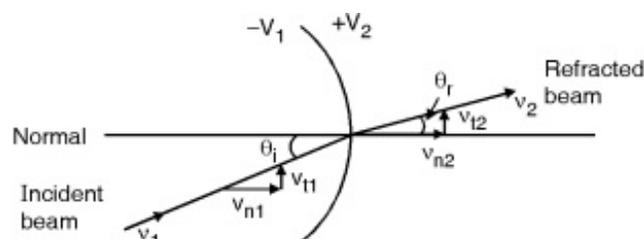

Fig. 7.7.2 : Refraction of a beam
- In Fig. 7.7.2, we have an equipotential surface. It is considered as a boundary across which the potential V_1 abruptly changes to potential V_2 .
From Fig. 7.7.2